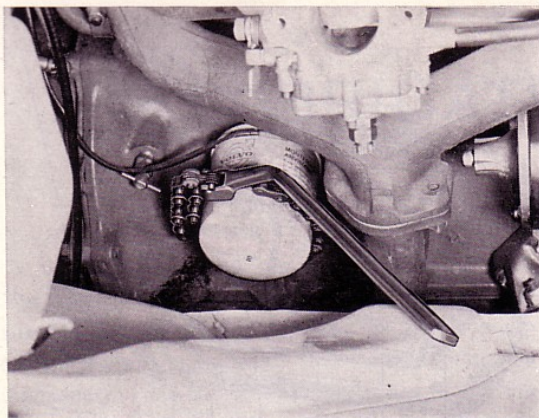

Fig. 55 Removing the oil filter
1. Remove the old filter with the help of chain tongs, see Fig. 55.